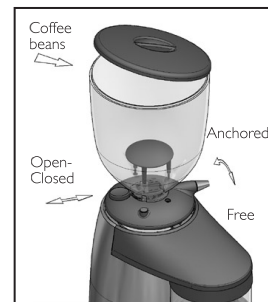

Fig. 2
Remove the hopper lid (1), fill the hopper (2) with coffee and replace hopper lid. Fig. 2.